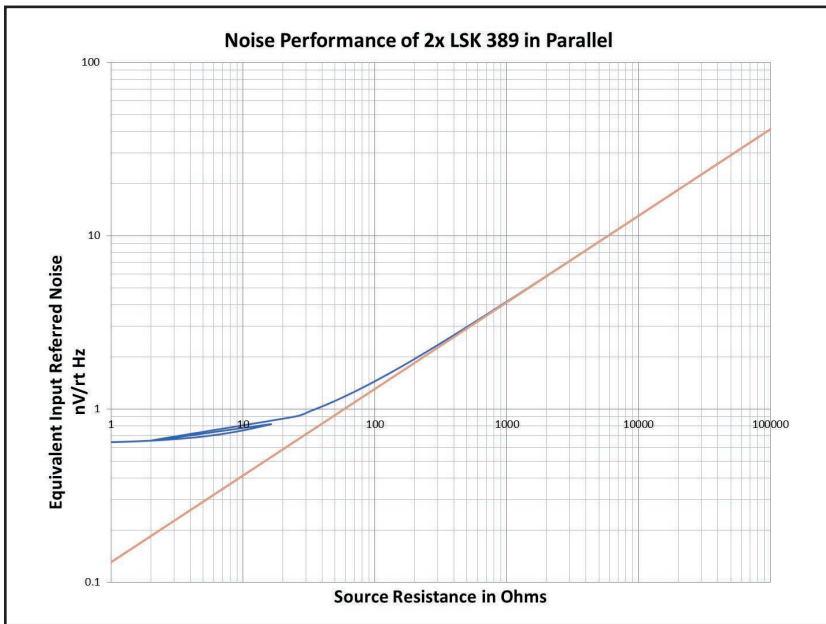

Figure 2: LSK 389 noise performance
ref 5mV (both figures unweighted) is about all that is achievable. Using an LSK389B JFET front end with both devices wired in parallel (**Figure 2**) and a 110Ω gain setting resistor in the feedback network, a figure of -75.3dB ref 5mV is attainable in an all-active design, which is >3dB better than the NE5534A and >10dB than an OPA1602 in a similar configuration. Note: Vinyl surface noise will degrade these figures by approximately 15dB to 20dB even on a good pressing.